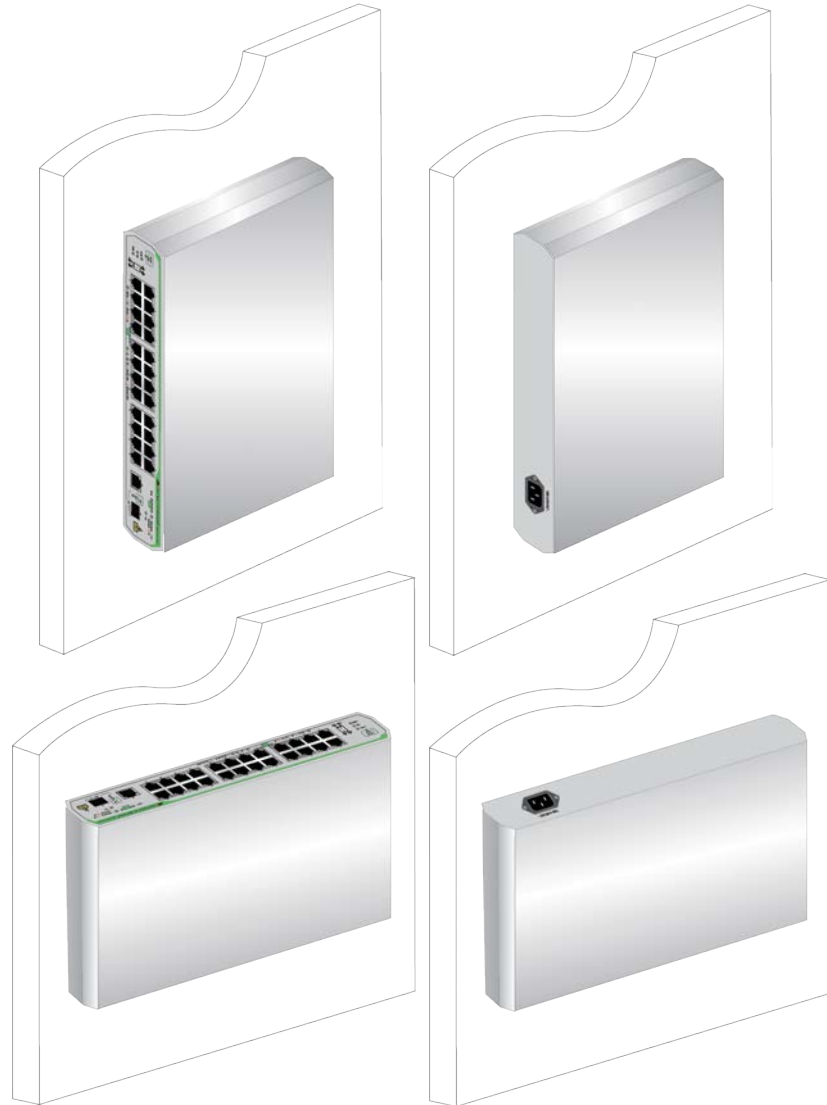

Figure 20. Correct Wall Installations
- ❑ The switch must be installed either horizontally or vertically in one of the orientations as shown in Figure 20.